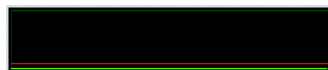

Figure 84. High Sensitivity Setting Level
- Figure 84 shows the position of the red sensitivity indicator at a high sensitivity setting. In this case, a low motion level will cause the green motion indicator to surpass the red sensitivity indicator.